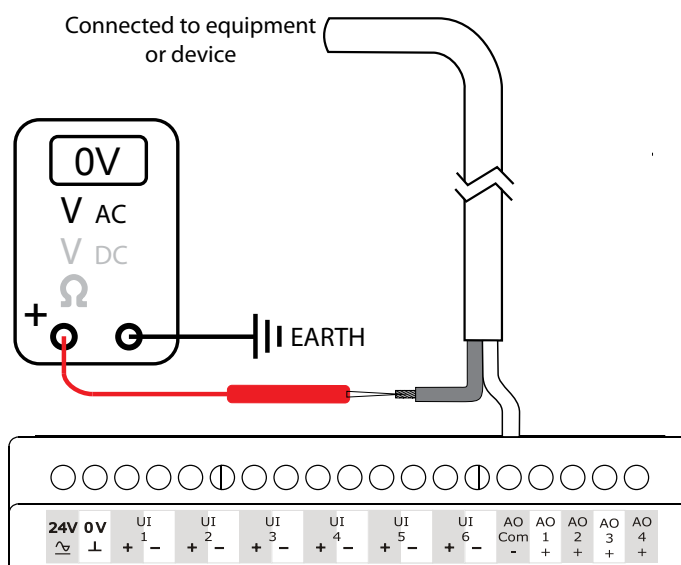

Figure 5-4: Checking Analogue Output Voltage
5. The DMM should measure 0V, as illustrated in Figure 5-4 below. Be sure to set the DMM measurement range to measure the lowest possible voltage to ensure no voltage is present.